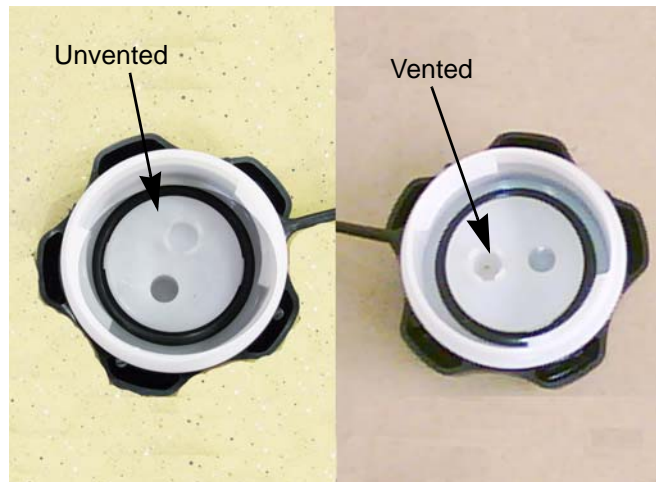

Figure 4.9
**NOTE:** The fuel cap used with the charcoal canister system is not vented. If a vented cap is used, the EVAP system will not work. See Figure 4.9.